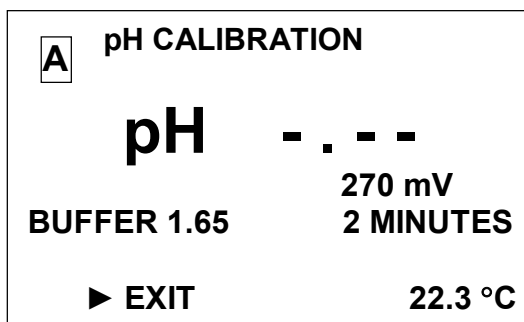

Fig. 2.14
- 7 Move pointer "►" to **PERFORM** button and press "menu enter" button. The display shown in Fig. 2.14 shall come up.